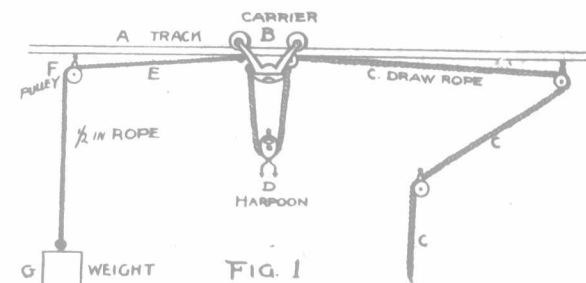

FIG. 1
Hoops are 3/4-inch round iron, 15 ft. 6 in. long, with about 8 inches of thread on each end. The washers are cast iron, and 4 inches in diameter. The holes in the posts for the hoops were bored with a 1/4-in. bit, as shown in Fig. 1. By boring with this sized bit, the hoops slip through the posts without much trouble.
By referring to Fig. 1, I may be able to explain it briefly. At the end of the carrier B, opposite side of the mow in which you are putting hay, fasten, say, one-half-inch rope, which passes through pulley F, to which a weight (G) is attached, which should be just heavy enough to pull back the carrier, harpoon and rope as soon as the load is tripped; then you have only to pull the harpoon down with the trip rope. The carrier comes back readily by the weight—no human energy wasted.